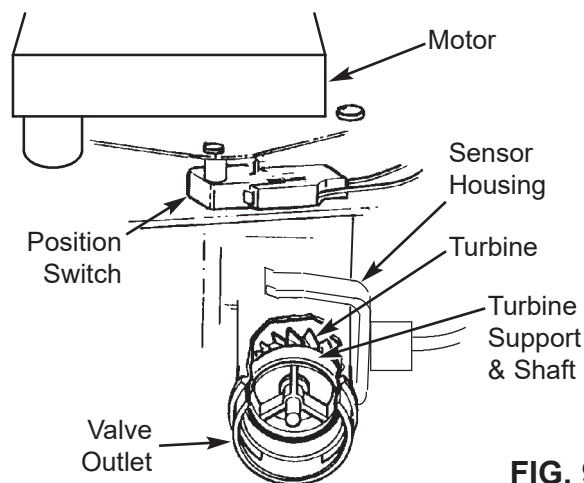

FIG. 98
6. If the display reading does not change with the faucet open, pull the wire harness from the valve outlet port (See Figure 98).